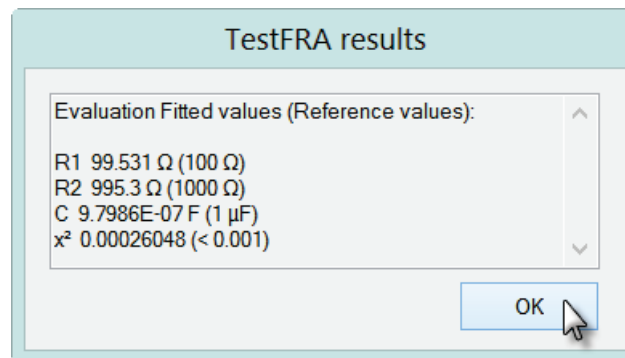

Figure 1.84 – The fitted values are shown in a message box at the end of the measurement (the reference values are shown in round brackets)
At the end of the measurement, the data is automatically fitted using a R(RC) equivalent circuit and the calculated values of the circuit elements are displayed in a message box (see Figure 1.84).